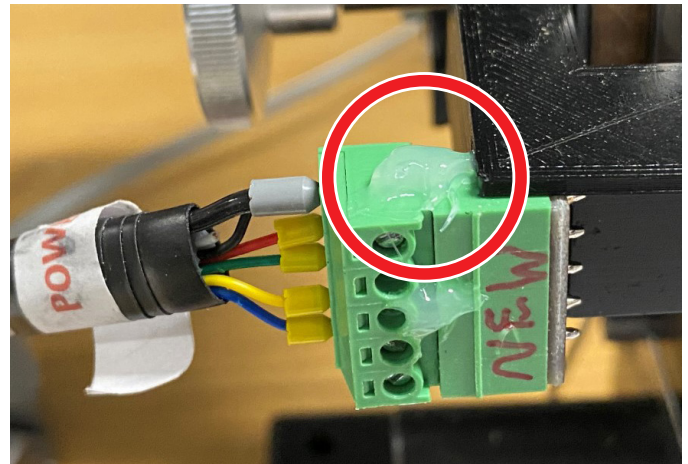

FIGURE 6—The red circle shows the drop of silicone on the top of the optical encoder connector.
- C. Then add another drop of silicon to the top of the connector so it covers both the male and female connectors (see Figure 6).